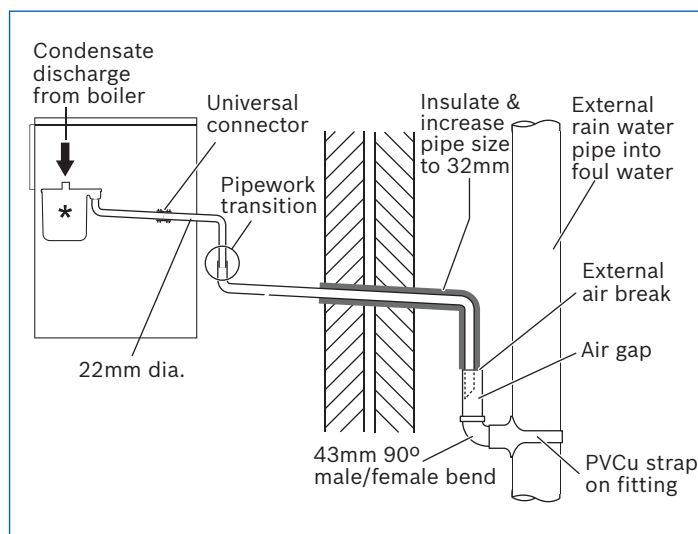

Fig. 6 Disposal into a rainwater down pipe (internal and external models).
- Refer to Fig 6. When a rainwater down pipe (which goes directly into a sewer that carries both rain water and foul water) is used to dispose of condensate, an air break must be installed. It should be fitted on the 43mm pipework, between the boiler condensate outlet and the drainpipe. The installation should take place outside the property to avoid flooding during adverse weather conditions.